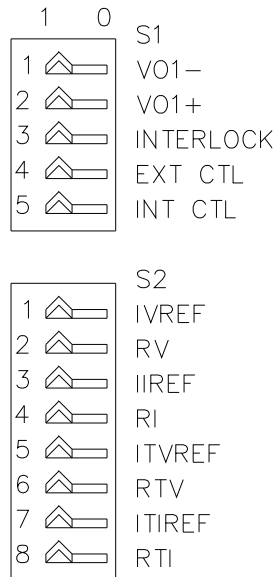

Figure 2.2 Default switch positions for S1 and S2 (on is state 1 and off is state 0)
1. Set all positions of dip switch S2 on the power supply to 0. Figure 2.2 illustrates the default positions.
Check that switches S1 and S2, located at the rear of the supply, are set to position 1, the default switch positions. As shown in figure 2.2, switch positions depict normal local sense and programming configurations. It is recommended that the following brief electrical check be made shortly after unpacking the supply.
PQ series power supplies are normally shipped with its switch settings arranged for constant voltage/constant current, local sensing, and local programming. This is set by the programming switches, S1 and S2, located at the rear of the supply. As illustrated in figure 2.2, all of the programming switches should be set to position 1. The operator selects either a constant voltage or a constant current output using the front panel controls (local programming, no switch changes are necessary).